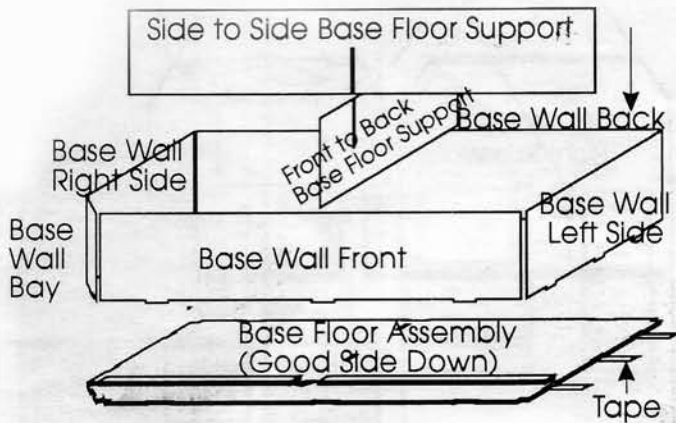

Figure 3
4. With the Base Floor Assembly still good side down, apply a 3" long piece of tape to the under side of the floor at each notch. Glue each Base Wall to the Base Floor Assembly by running a bead of glue to the tabbed edges of the Base Walls and interlocking the walls into the notches of the Base Floor assembly. Glue and tape the Base Floor Supports into place. Do not glue the ends of the Base Walls together at the corners, cornerposts will be inserted there. See Figure 3.